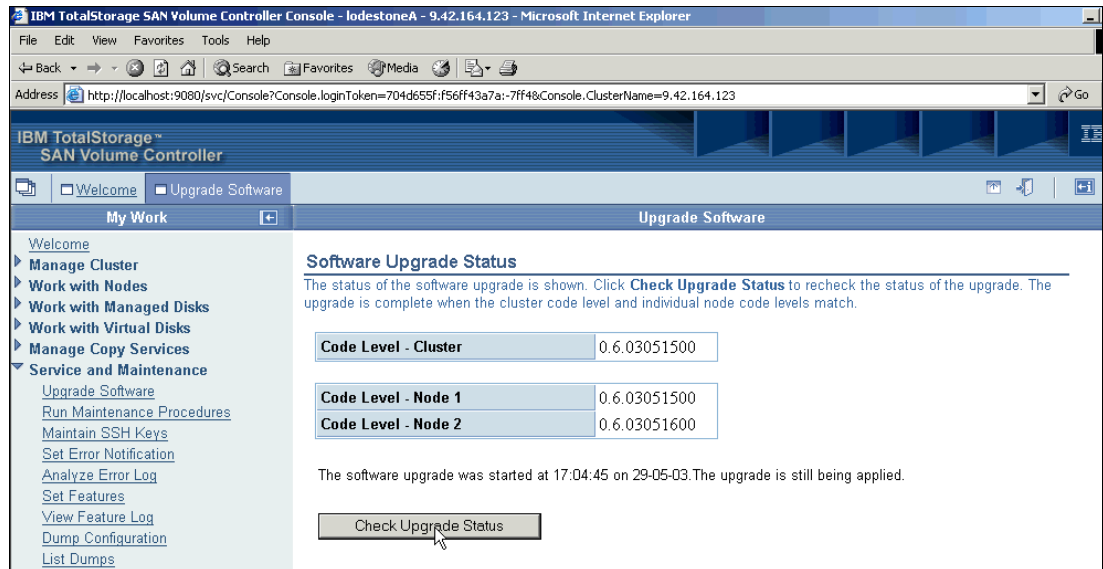

Figure 9-81 Software Upgrade Status
7. The Software Upgrade Status panel (Figure 9-81) opens. Click the **Check Upgrade Status** button periodically. However be prepared for a long wait. We waited up to 40 minutes for our upgrade.